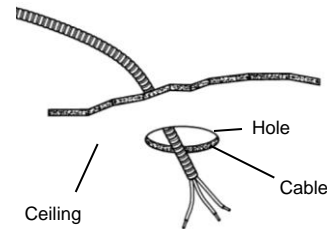

Fig. 3
3. Run armored cable (BX) or non-metallic (NM) cable (also known as Romex) from your circuit breaker or fuse panel to the 3 1/4” (8,3 cm) hole, providing 6” (15,2 cm) to 8” (20,3 cm) of slack extending below the hole. Cable having up to 12 AWG wiring may be used. (Fig. 3) (**WARNING - Use cables having wires rated 90°C or more.**)